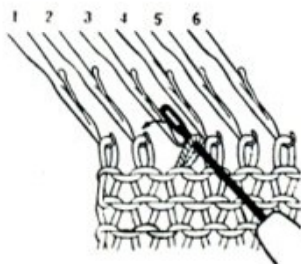

Fig. 64
- a. Use the single needle transfer tool and transfer a center stitch to adjacent needle. (See Fig. 64)